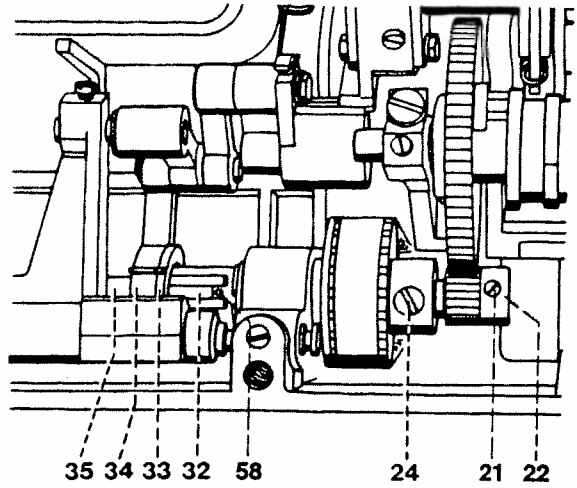

Fig. 40a
- Knock out hollow pin 58 (fig. 40a).
- Loosen the three screws 24 of the lower belt sprocket (fig. 40a).